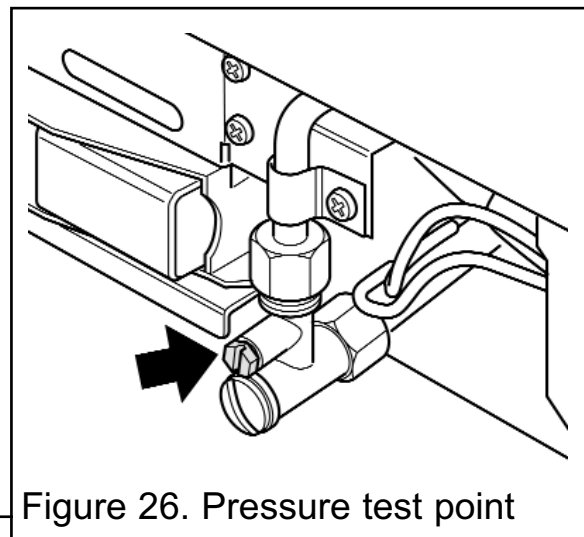

Figure 26. Pressure test point
1. Ensure that the appliance is switched OFF, then fit a pressure gauge at the test point (See figure 26).